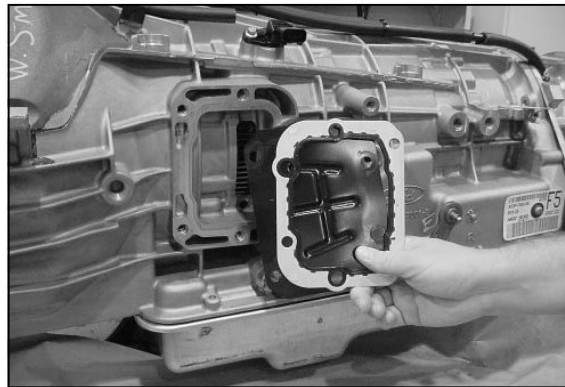

Figure 10
10. Remove the P.T.O. aperture cover plate and gasket (**Figure 10**).